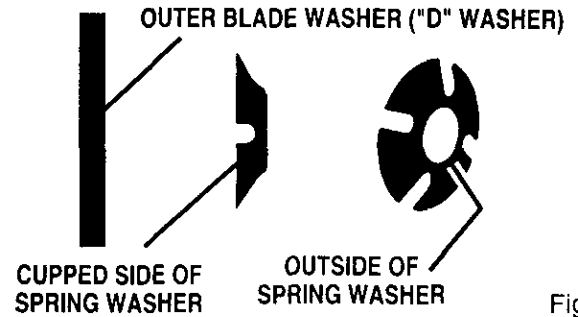

Fig. 3
- Replace "D" washer and spring washer. **Note:** "Cupped" side of spring washer goes against "D" washer. See Figure 3.